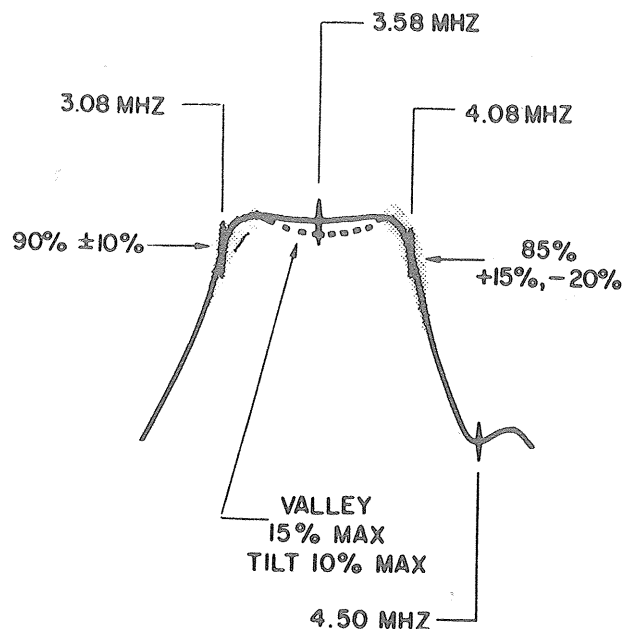

Figure 33. Typical Chroma Response Curve Showing Tolerance Ranges of Response Levels
6. A response curve similar to that shown in Figure 33 should be seen. Select the marker generator frequencies of interest. Refer to the manufacturer's instructions for bandpass specifications and alignment procedure.